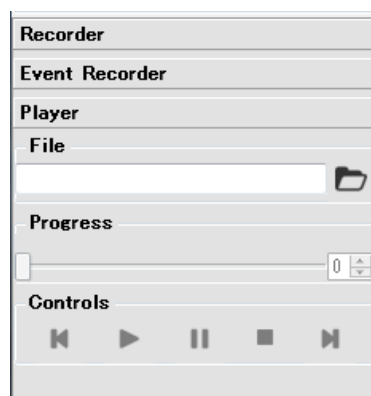

Figure 7-59 Log player window 2
- 4 Select the log data file for re-playing (Figure 7-59).